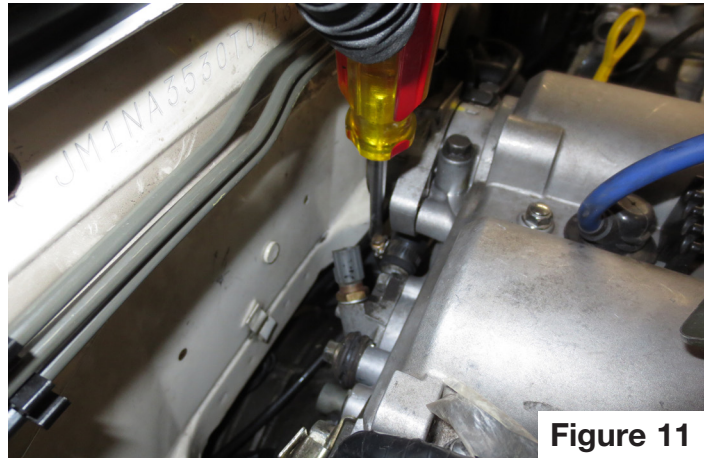

Figure 11
- 11) Remove the heater hose clamp and heater hose from the water neck at the rear of the cylinder head by the firewall. Inspect the heater hose. Replace the heater hose and clamp if they are old or in poor condition to ensure against leaks. **Figure 11.**